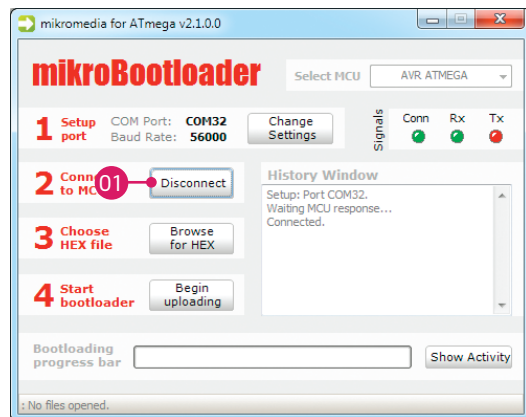

Figure 3-5: Connecting mikromedia with mikroBootloader
- 01 Click the **Browse for HEX** button and from pop-up window (figure 3-5) select .hex file which will be uploaded to MCU memory